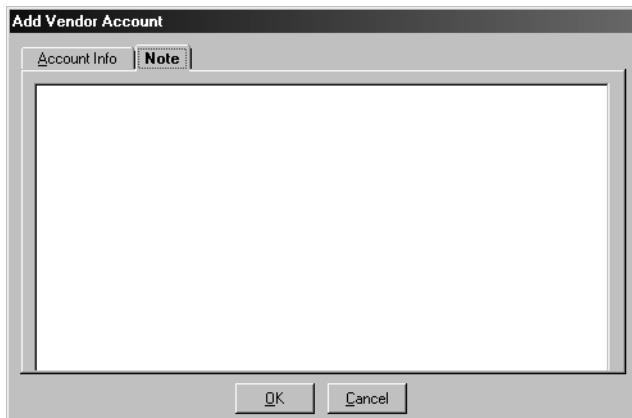

Figure 4-14. Add Vendor Account dialog box - Note tab
11. Click the **OK** button to save the account and close the **Add Vendor Account** dialog box (see Figure 4-14). Click the **Cancel** button to close the dialog box without saving.